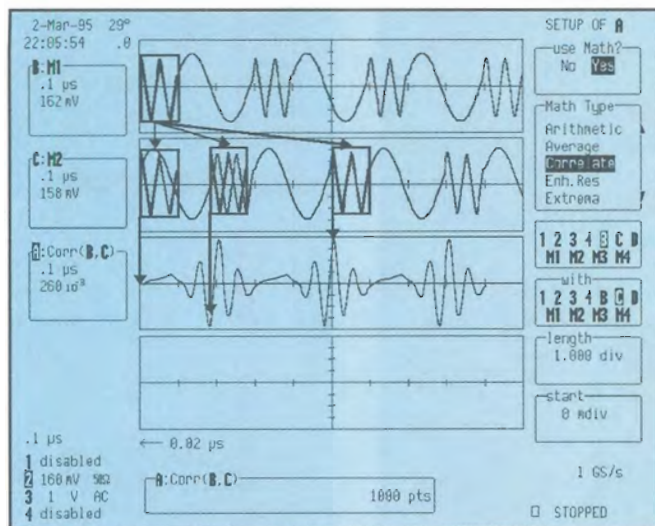

Figure 1. The first division of the top waveform is compared to the second waveform. The result of the correlation measurement is shown in Trace A.
In Figure 1 the first section of the upper trace (B) is being correlated to the waveform below it (C). The result is drawn on the lower trace (A). The beginning of C matches poorly to B, so the correlation result is near zero. About two divisions later on the screen the two waveform sections are very nearly inverses of each other, resulting in a large negative correlation. In the